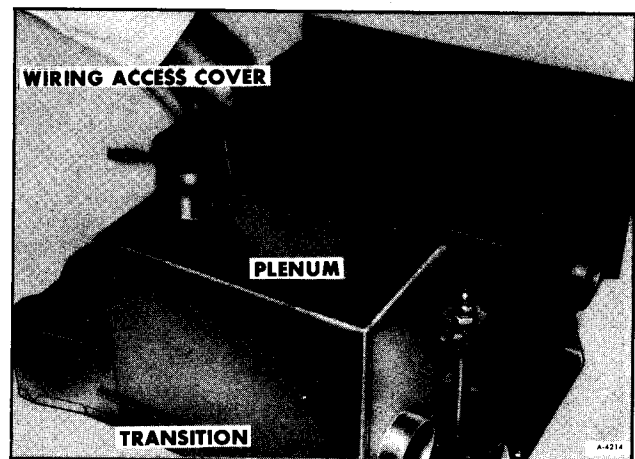

Figure 18—Removing Furnace Plenum
2. Remove furnace plenum (See figure 18). Remove wiring access cover.
6. Install furnace plenum (See figure 18). Install wiring access cover.
2. Remove wiring access cover (See figure 18).
5. Install wiring access cover (figure 18).
2. Remove wiring access cover (figure 18).